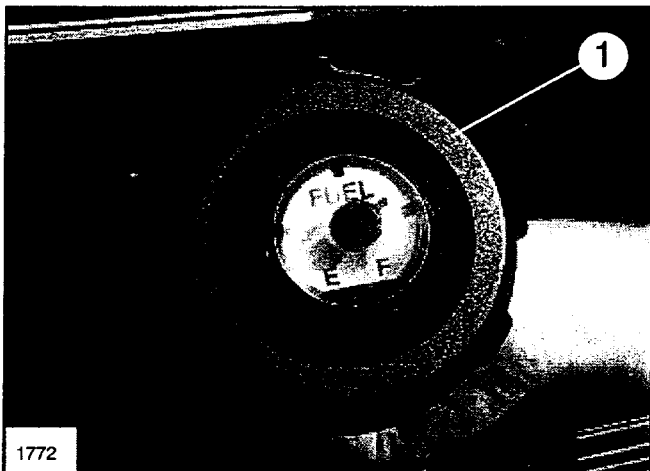

FIG. 4
**FUEL GAUGE:** The Fuel Tank Cap shows amount of fuel in Tank. (See FIG. 4)